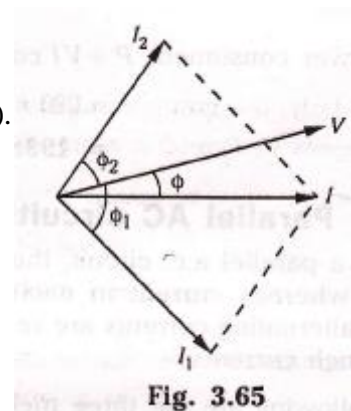

Fig. 3.65
$$\cos \phi_1 = \frac{R_1}{Z_1} \quad \text{or} \quad \phi_1 = \cos^{-1} \left( \frac{R_1}{Z_1} \right) \quad \phi \text{ (fig. 3.65).}$$
Current  $I_2$  leads  $V$  by  $\phi_2$  (fig. 3.65).
**Resultant current :** The total line current  $I$  is the vector sum of the branch currents  $I_1$  and  $I_2$  and is found by using the parallelogram law of vectors, as shown in fig. 3.65.